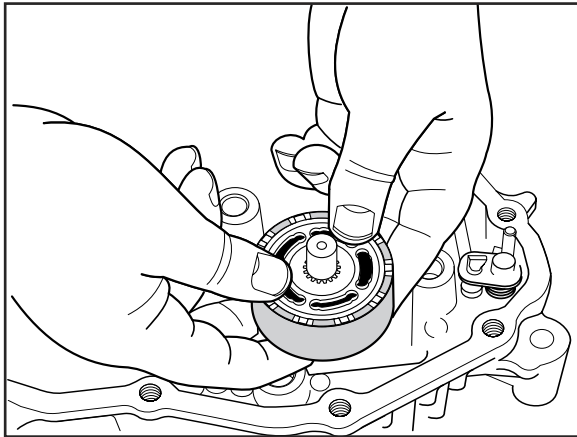

Fig. 24, Cylinder Block Assembly Installation
4. Install Cylinder Block Assembly onto Pump Shaft. (Fig. 24)